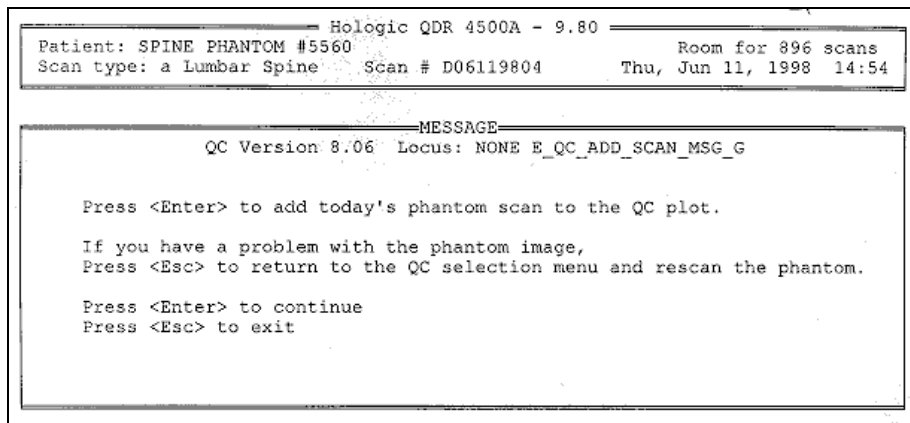

Figure 6-5. Spine phantom QC
- You will be prompted to press 'Enter' to add the current QC values to the QC plot. See Figure 6-5.